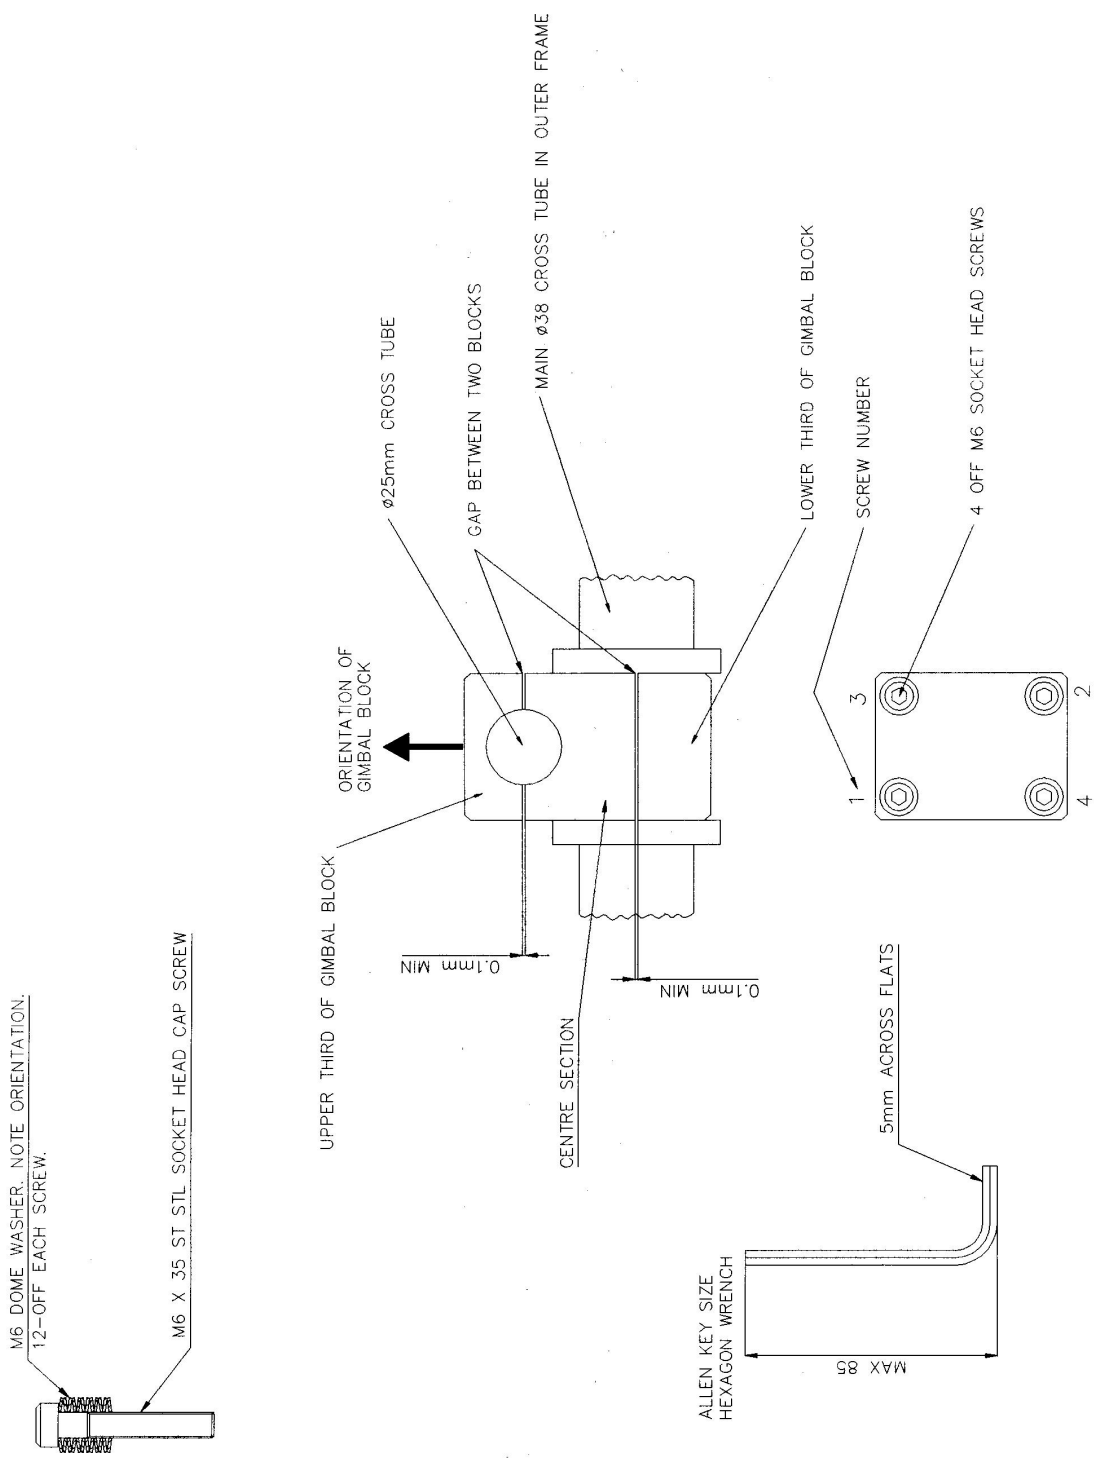

FIG SB4-002. ORIENTATION OF GIMBAL BLOCK
Both sides of the same gap should be equal and not less than those specified on Figure SB4-002. If the gaps are not equal, implement the procedure below.
If both sides of either gap are equal and less than those specified on Figure SB4-002, then a new gimbal assembly must be fitted. In this case, contact Lindstrand Balloons Ltd immediately.
If both sides of each gap are equal and greater than those specified on Figure SB4-002, then implement the following procedure:
2. Referring to Figure SB4-002:
Each side of the gap between the upper third of the gimbal block and the gimbal centre section should be equal and greater than the dimension specified on Figure SB4-002. Similarly, each side of the gap between the lower third of the gimbal block and the gimbal centre section should be equal and greater than the dimension specified on Figure SB4-002.
If after measurement, either of the gaps are less than those specified on Figure SB4-002, then a new gimbal assembly must be fitted. In this case, contact Lindstrand Balloons Ltd immediately.